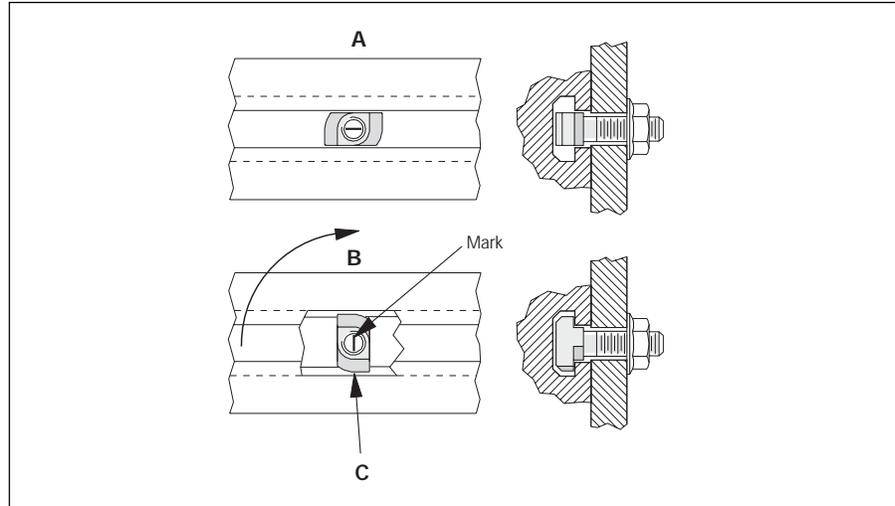

Figure 3
The EQ2/U, like virtually all Bosch conveyor modules, attaches to T-slots in the conveyor profile with T-bolt or T-nut fasteners. (Fig. 3). Simply insert the T-bolt into slot (A), and tighten down the hex nut. As it tightens, it will turn the T-bolt 90° in the slot (B), creating a friction lock (C). The same principle applies to T-nuts. The maximum allowable torque is 25 Nm (18.5 ft-lbs).